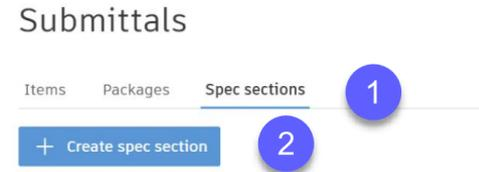

Figure 32
- b) Select the Spec sections tab (Figure 32, mark 1) and click Create Spec Section (Figure 32, mark 2).